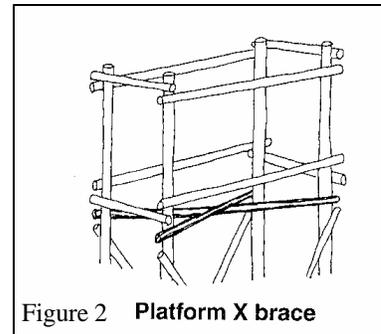

Figure 2 Platform X brace
- Lash the **Platform X-Braces** under the platform using 8' spars (See Figure 2). Use square lashings where the **Platform X-Braces** intersect the ladder and non-ladder sections. Use a diagonal lashing where the **Platform X-Braces** intersect.